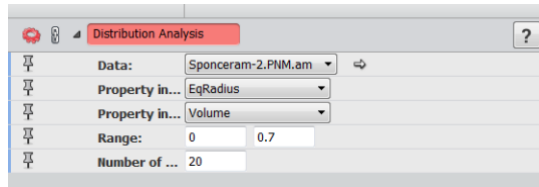

Figure 20.20: Distribution Analysis
- Set the parameters as shown in Figure 20.20 and click **Apply**.